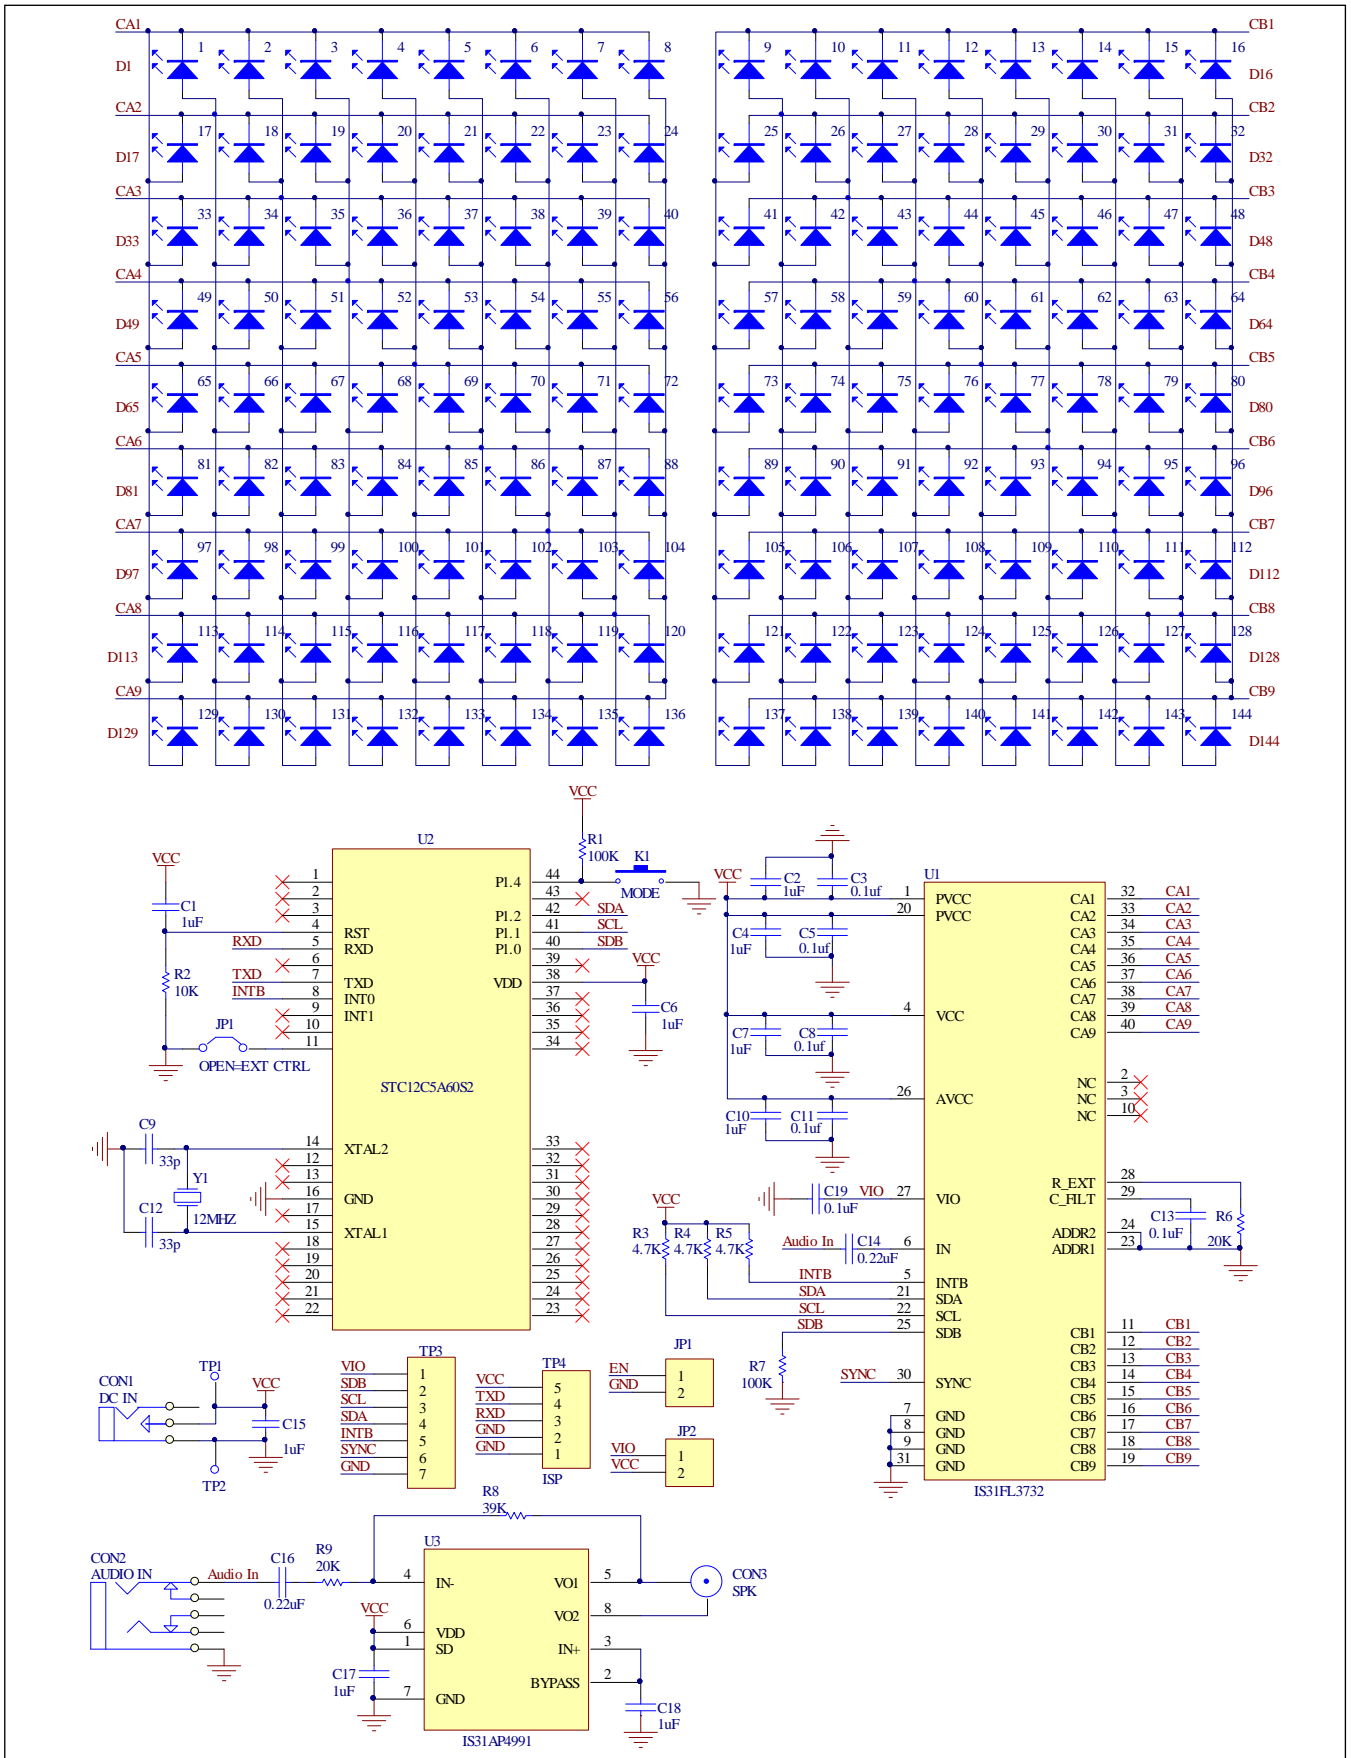

Figure 13: IS31FL3732 Application Schematic
*Bill of Materials, refer to Figure 13 above.*